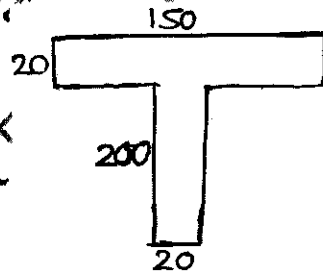

Fig. Q7 (b)
b. Draw shear stress distribution across the cross section for the section shown in Fig. Q7 (b). Take shear force = 100 kN. (10 Marks)